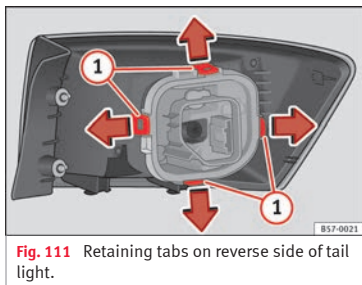

Fig. 111 Retaining tabs on reverse side of tail light.
7. Disassemble the bulb holder unlocking the securing tabs » **Fig. 111 ①**.